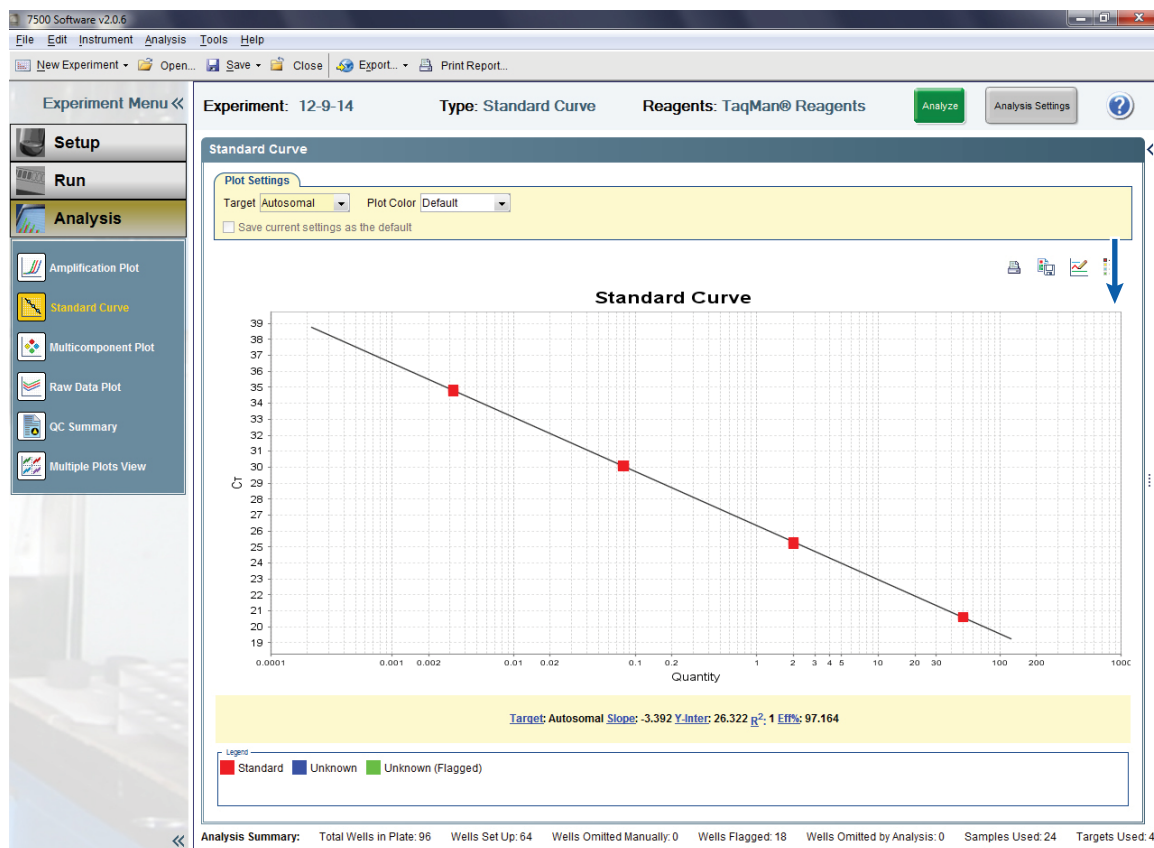

Figure 21. Displaying the standard curve for the autosomal target.
3. To display standard curves, select **Standard Curve** from the Analysis menu in the left side panel. Display the standard curve for each target by selecting that target from the 'Target' drop-down menu (Figure 21). The standard curve parameters are located below the standard curve plot.